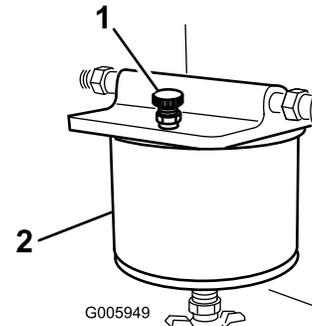

Figure 33
3. Open the bleed screw on top of the fuel filter to fill the bowl with fuel (Figure 33).